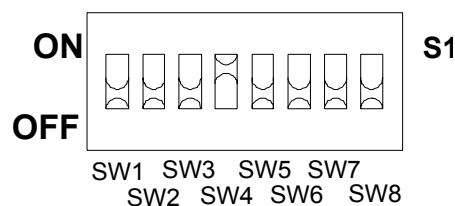

FIGURE 4-1 Switch SW4 in ENABLE position (ON)
MMODE selection is protected by switch SW4 (see **FIGURE 4-1**). The switch SW4 is normally in DISABLE position (OFF). Turn the switch to ENABLE position (ON) to be able to make a new MMODE selection.